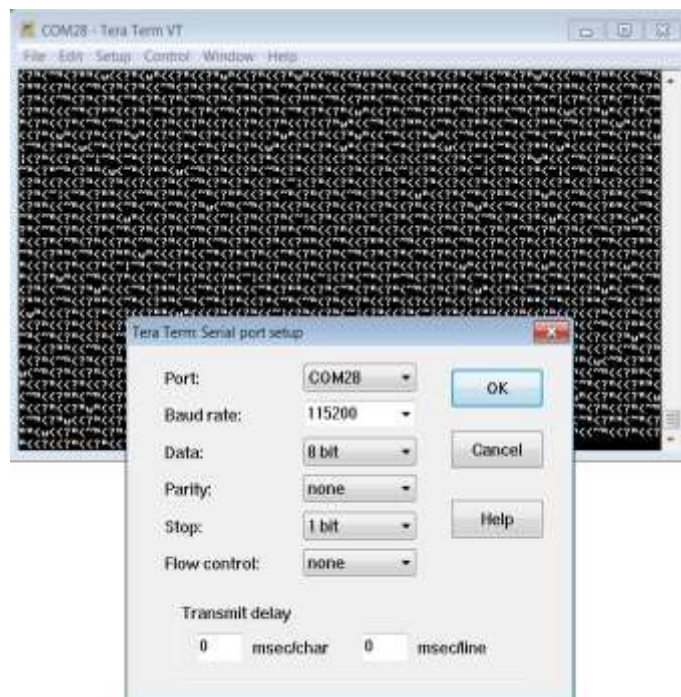

Figure 10: Setting Up the Port and Testing Connectivity via Tera Term
5. Select Setup > Serial Port and configure your UART port using the parameters shown in **Table 1** (you need to be an administrator on your local machine), see **Figure 10**.